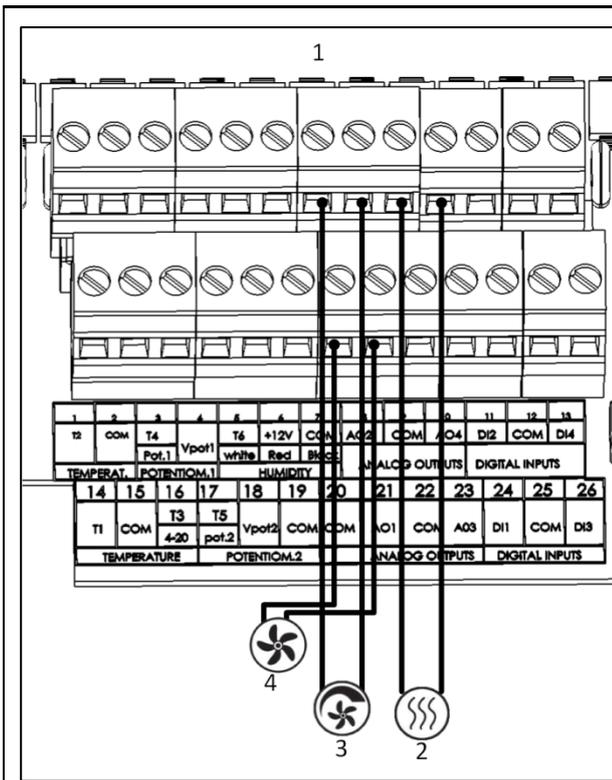
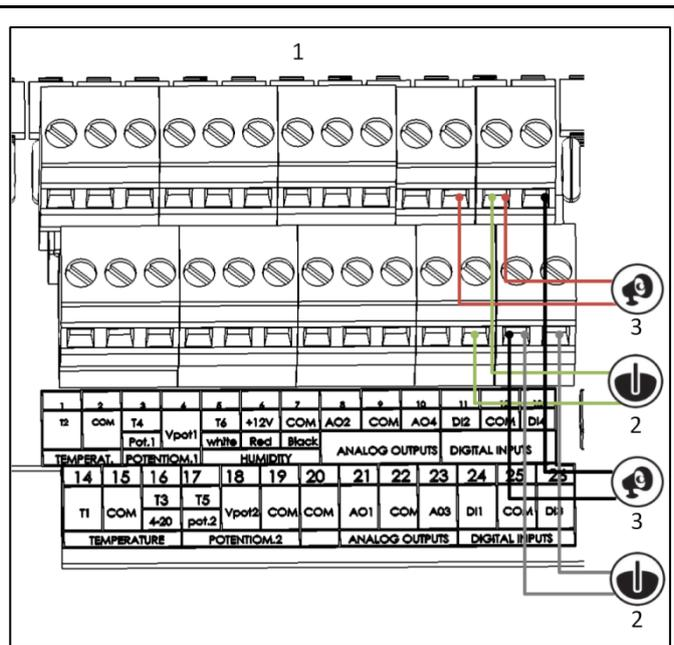

Figure 17: Analog Output Wiring
Figure 18: Digital Input Wiring
Figure 17 key
Figure 18 key
NOTE Figure 17 and Figure 18 are examples. Actual installations can differ.
➡ Wire the analog output devices to the Element as shown in Figure 17.
**🔗 Wire the digital input devices as shown in Figure 18.**